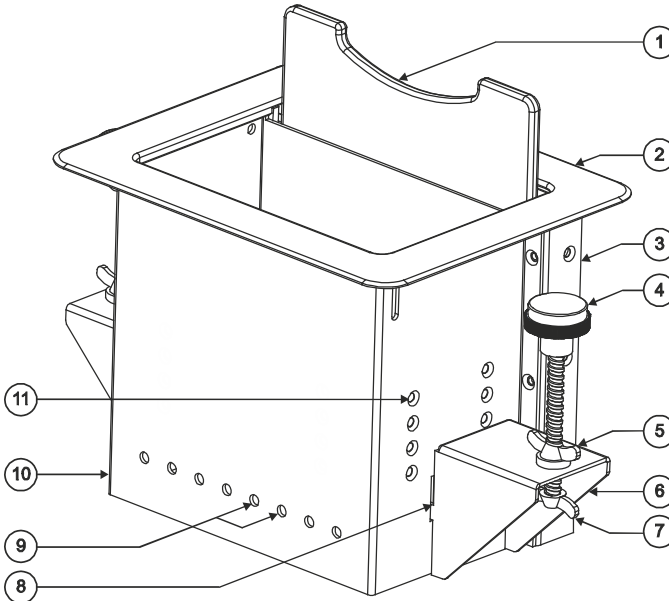

Figure 2: TBUS-5xl Enclosure Top View
3. Take the support brackets under the table and place them into the support bracket grooves on both sides of the unit (see Figure 2, item 6).